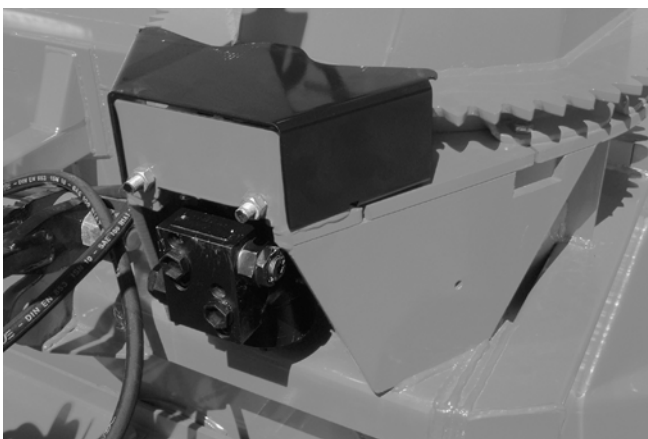

Figure 25
- 5) Install guard. It is important that the cushion valve furnished with your chute rotation kit be installed. Cushion valve has been pre set in plant at 1600 psi. (Fig. 25).